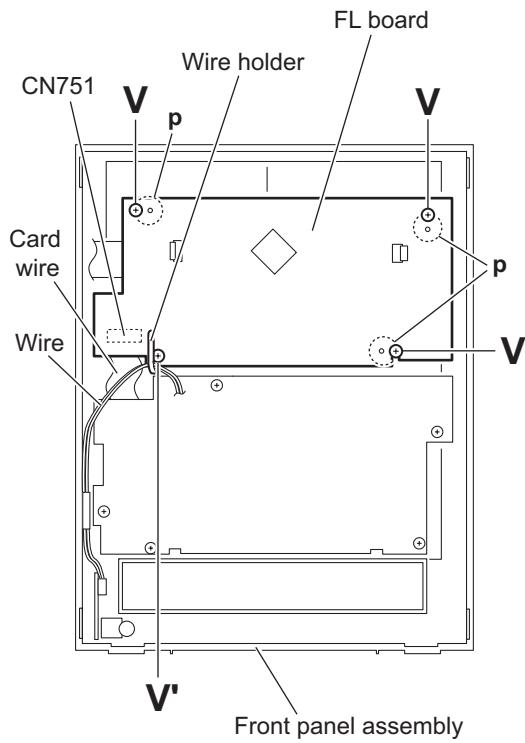

Fig.26
(See Fig.26)
- When removing the switch board, remove the wire holder as required. (See Fig.26.)